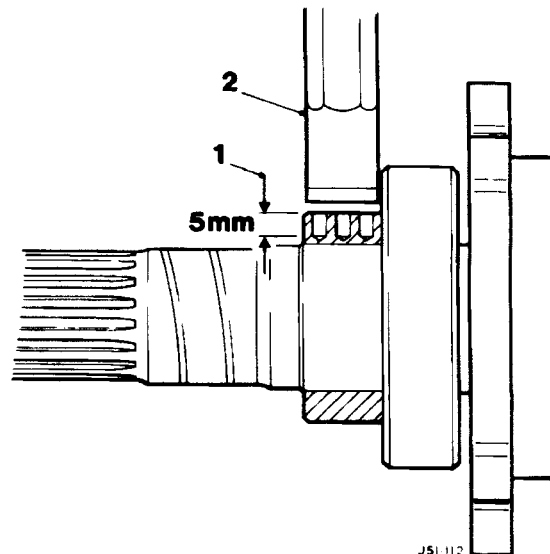

Fig. 1
- Mark bearing retaining collar axially and drill 3 off holes 4,0 mm diameter equally spaced, to a MAXIMUM depth of 5,0 mm (1 Fig. 1).
- With a suitable chisel (2 Fig. 1) strike the collar across the three drilled holes to relieve tension within the steel.
- Remove fixings center bearing to crossmember (1 Fig. 1) and push drive shaft rear section forward to disengage from pinion spigot.